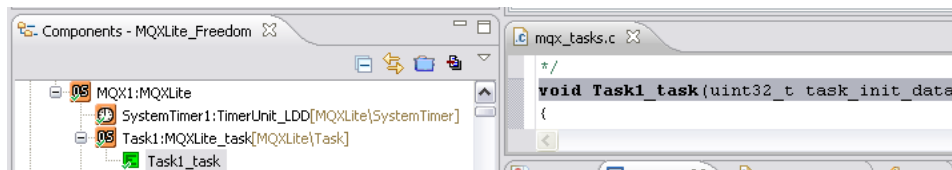

Figure 38. Accessing the MQXLike task source code
1. All this should happen in the MQXLite task. Expand the MQXLite component until you reach the “Task1_task” subcomponent. Double click on it to make the source code appear at the right hand of the screen. Figure 38 is an example of how it looks.